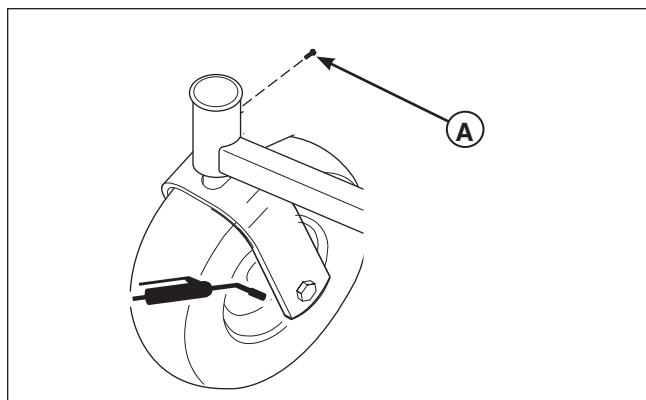

Figure 23. Front Caster & Wheel
1. Remove the 1/4-28 bolt (A, Figure 23) screwed into the front caster and install a 1/4-28 grease fitting.